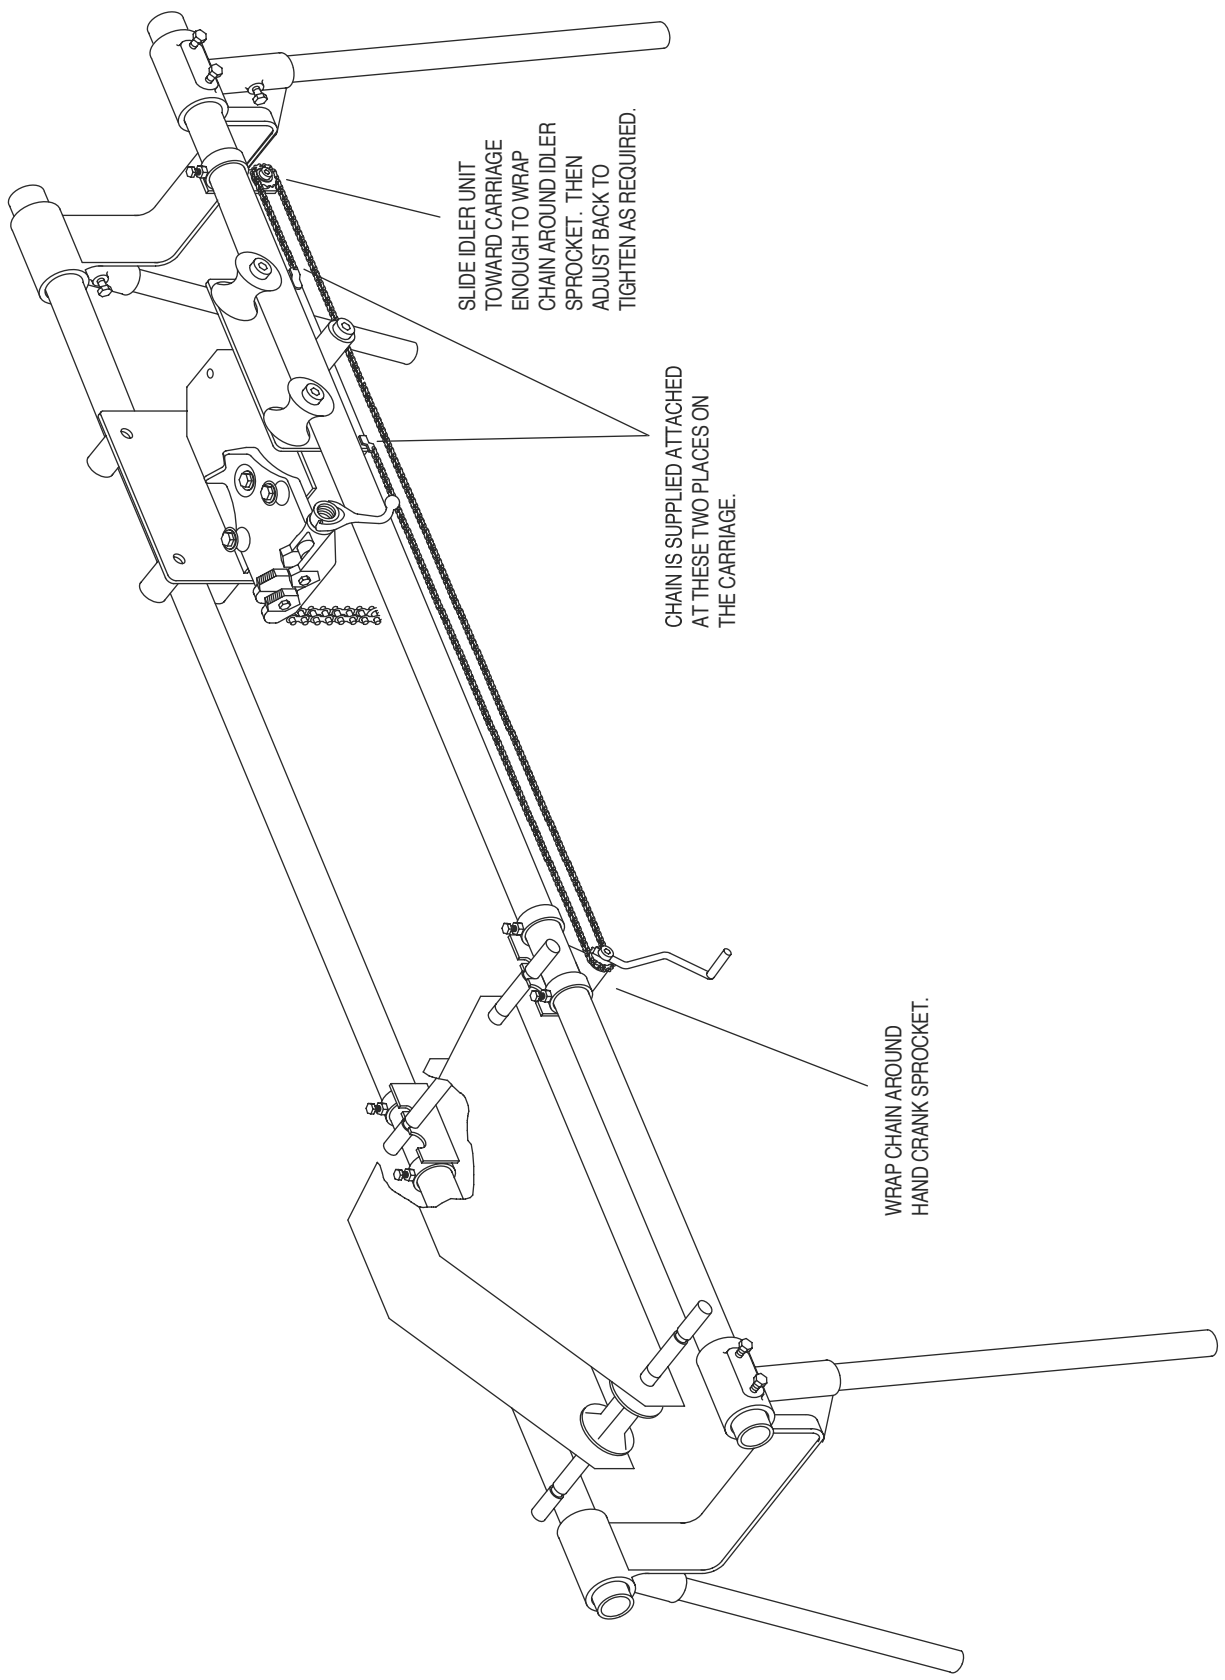

FIGURE 8
4. Place chain around sprocket on hand crank unit and around idler unit as shown. See figure 8. Adjust idler unit to tighten chain. Tighten bolt on idler unit.